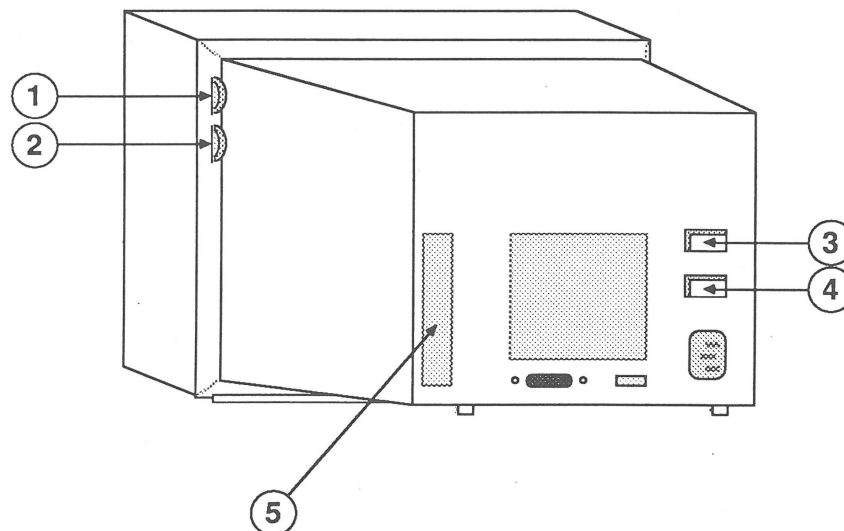

FIGURE 1
- IPL.3 CRT Assembly (Figure 1)
The brightness control (Figure 1, #1) and contrast control (Figure 1, #2) for the AppleColor High-Res RGB Monitor are on the case side (at the right as you face the screen). The power switch (Figure 1, #3) and the degauss switch (Figure 1, #4) are located at the back.
Less frequently used controls are at the back of the monitor, under a snap-out door (Figure 1, #5). The user manual warns owners not to touch certain of these controls, but it is possible that well-meaning users will sometimes misalign them.